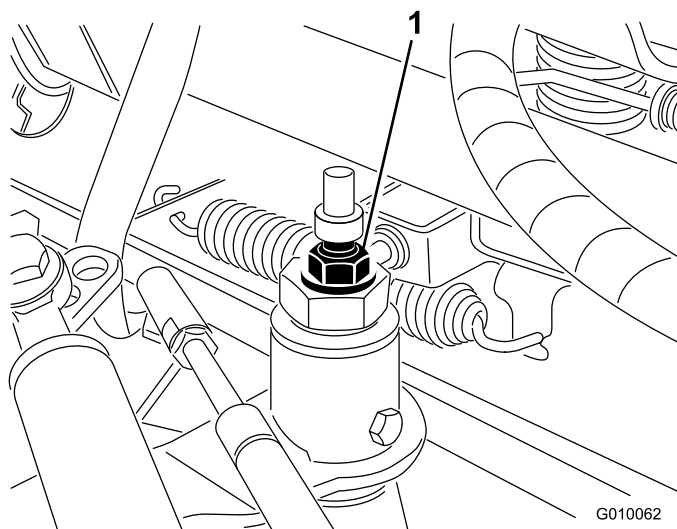

Figure 53
3. Loosen the locknut on the traction adjustment cam (Figure 53).